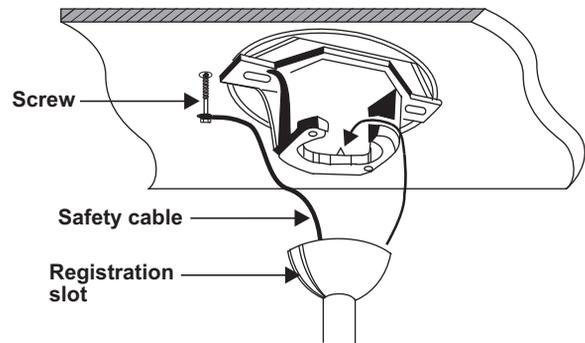

Figure 5
12. An additional safety support is provided to prevent the fan from falling. Secure the safety cable to the ceiling joist with screw and washer. (Fig. 5)